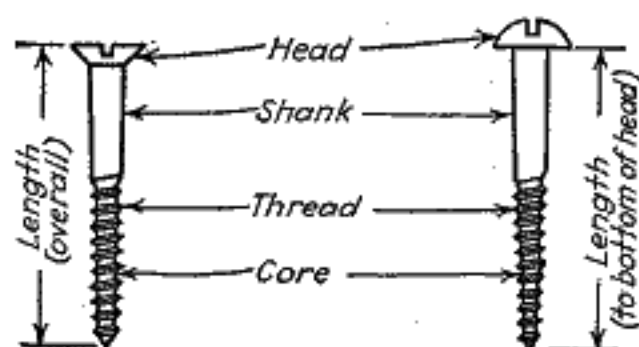

FIG. 78.—Parts of a wood screw
The size of wood screws is designated by (1) the gage or size of wire from which they are made and (2) their length, measured as shown in Fig. 78.
The names of the various parts of wood screws are shown in Fig. 78.